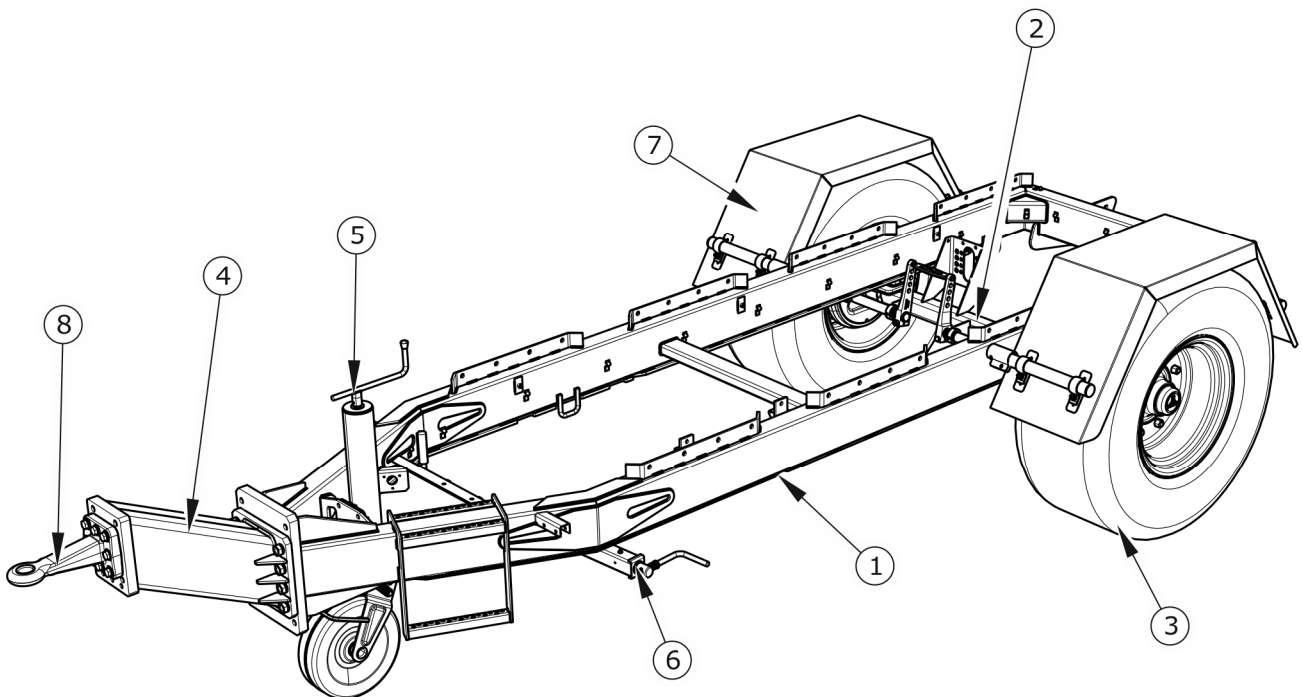

FIGURE 3.1 Spreader chassis
The spreader chassis is made up of the components listed in Figure 3.1. The lower frame (1) is a welded structure made of steel sections with basic load-bearing elements in the form of two longitudinal members connected with crossbars.